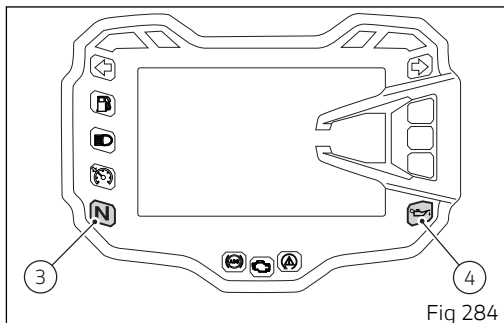

Fig 284
The red oil pressure warning light (4, Fig 284) should go out a few seconds after the engine has started. The engine will shut off by turning the red button (1) on the handlebar to RUN OFF. To turn on the "Hands free" system and all electronic onboard systems, refer to page 270 "Hands Free System".